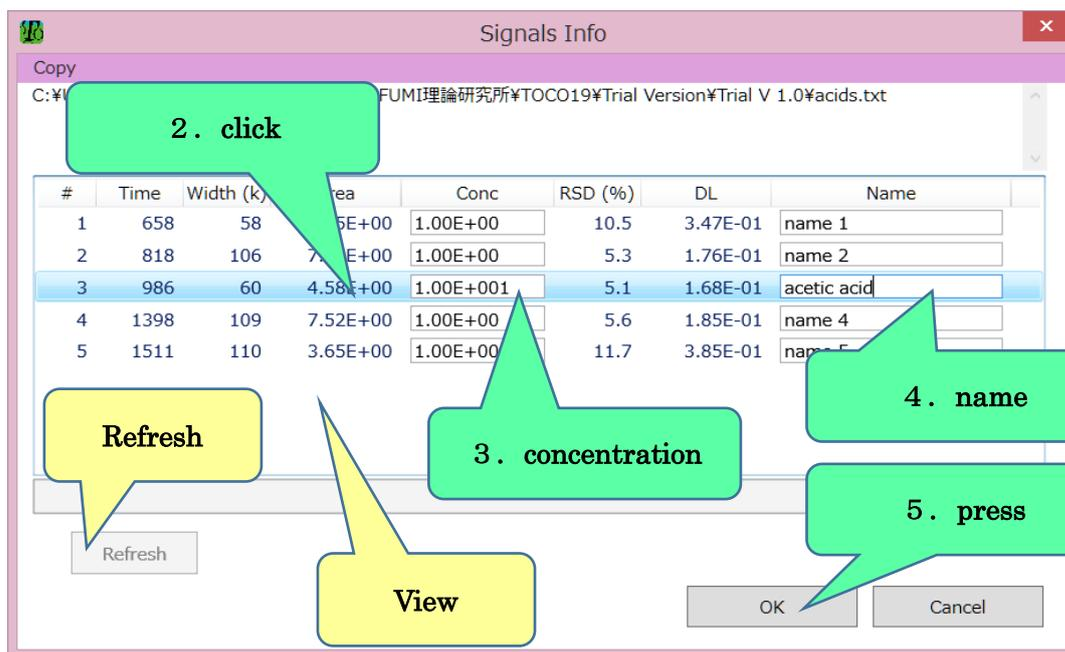

Figure 5 --- Signals Info window
2. select a target peak by clicking a row of the view of the Signals Info window (see Fig. 5);
- The Refresh button is used to confirm DL recalculation due to a change in concentration (see Fig. 5). Since a DL is automatically recalculated when another row in the view is clicked, the Refresh button does not have to be used except for immediate recalculation. If a typed value is illegal, the button will turn red. If not, it will turn green;